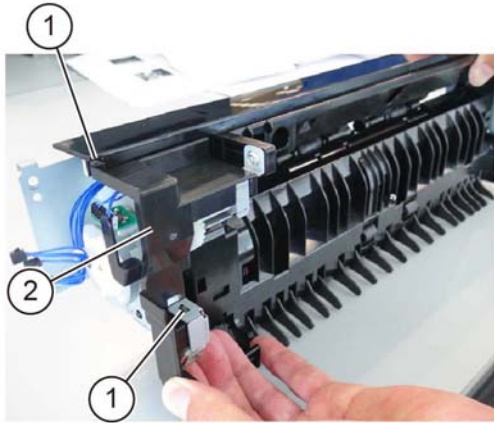

Figure 4 Rear cover removal
10. Disengage two hooks (1), then remove the rear cover (2), Figure 4.